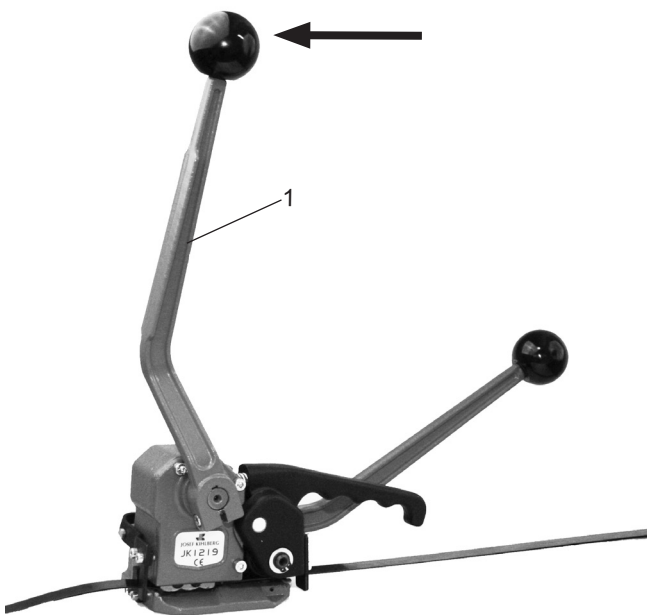

Fig. 5
- When the strap tension is reached, move sealing lever (Fig. 5/1) to the stop. The right hand remains on the tensioning lever to resist the opposing force. The strap is sealed and cut.